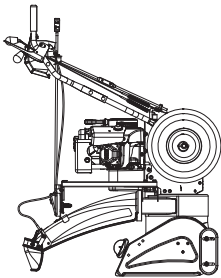

Figure 13
See Figure 13.
1. Place unit in service position (see Figure 13) and remove bottom cover.